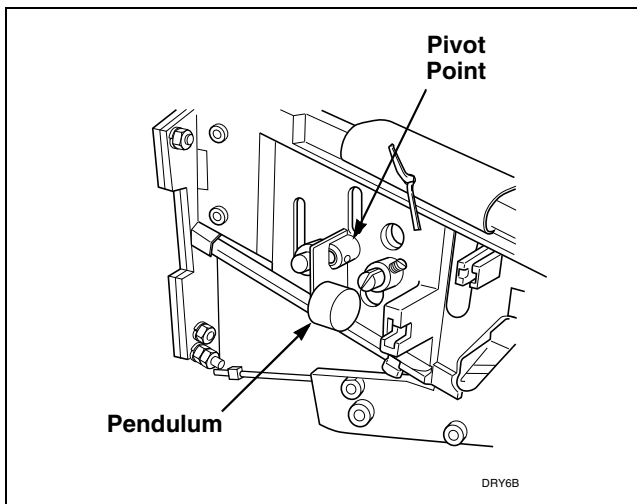

Figure 21
- i. Check coin return pendulum to verify it swings freely. If pendulum does not swing freely, spray pendulum pivot point with Teflon based lubricant and move pendulum back and forth two to three times. An additional application of Teflon based lubricant may be necessary to ensure that pendulum swings freely. Refer to *Figure 21*.